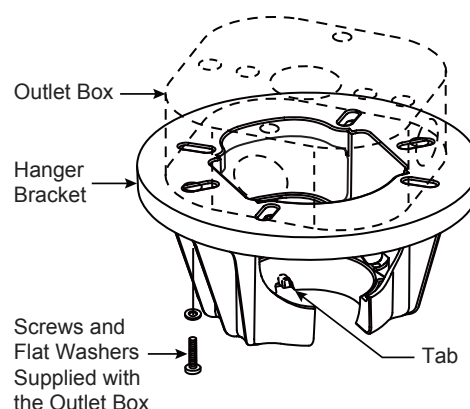
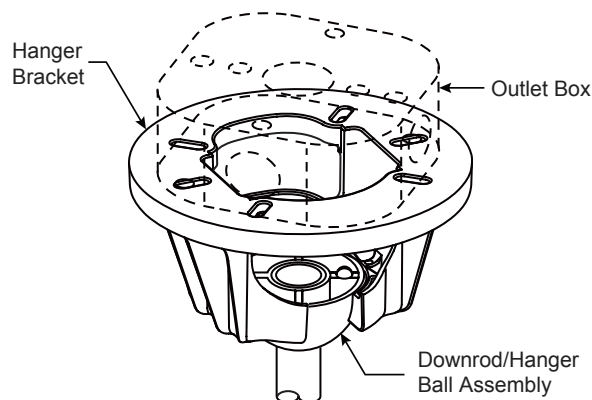

Figure 3
Figure 4
4. Slide downrod into the downrod support on top of the motor. Install the clevis pin by aligning the holes in the downrod support with holes in the downrod. Secure clevis pin with hairpin clip. Tighten the two set screws with nuts in the downrod support. Securely tighten the set screws with screwdriver then fully tighten the nuts by hex wrench. (Figure 4)
- ☐ 1. Securely attach the hanger bracket to the outlet box using the outlet box screws and washers supplied with the outlet box. (Figure 3)
NOTE: Outlet box screws pass through slotted holes of the hanger bracket. (Figure 3)
- ☐ 3. Carefully lift the fan and seat the downrod/hanger ball assembly onto the hanger bracket that was just attached to the outlet box. (Figure 4) Be sure the groove in the ball is lined up with tab on the hanger bracket. (Figure 3)
3. After connections have been made, put the white and green leads to one side and the black leads towards the other side, the connection should be turned upward and carefully push leads into the outlet box. The wires should be spread apart with the grounded conductor and the equipment-grounding conductor on one side of the outlet box and the ungrounded conductor on the other side. (Figure 4)